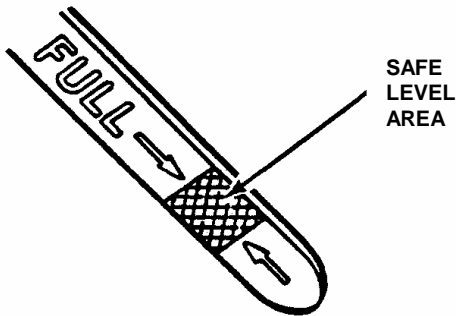

FIGURE 2.1
2.1.3. Check engine oil and add oil as needed to bring level up to, but not over, the FULL mark. Refer to engine owner's manual for oil specifications. See Figure 2.1.